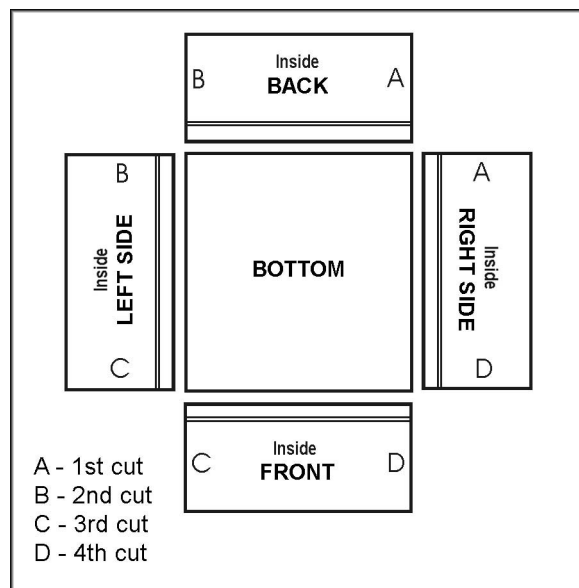

Figure 25
No matter the project, prevent mistakes by laying out the pieces beforehand according to how they will be assembled. Place them with the inside facing up, and label the mating edges, as shown in Figure 25.
11. Continue the dovetailing procedure with the FRONT piece, making cuts "C" and "D" (Figure 25) until all four joints of the drawer have been cut.